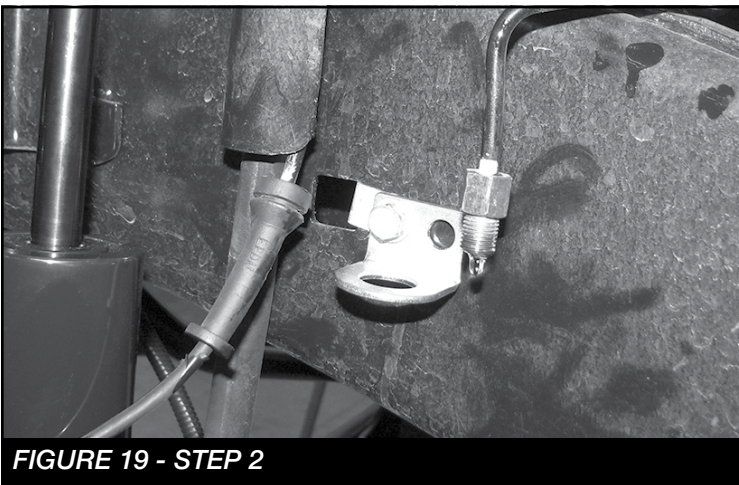

FIGURE 19 - STEP 2
2. Install the supplied brake line bracket in the factory location using the factory bolt. **SEE FIGURE 19**